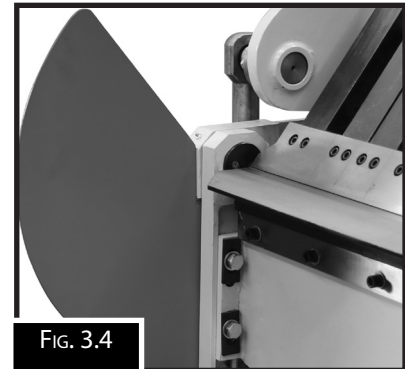

FIG. 3.4
- Bolt on the two apron safety guards (Fig 3.4)